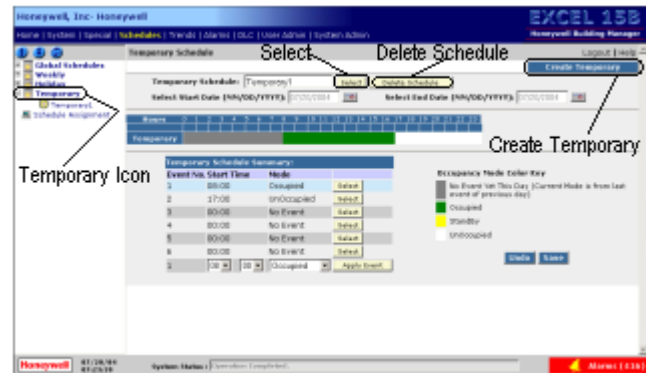

Fig. 23. Temporary Schedule Page
2. Click the "Temporary" icon and select a Temporary Schedule from the list displayed. The selected Temporary Schedule details appear on the "Temporary Schedule" page (refer to Fig. 23).
NOTE: You can also view and update another Temporary Schedule. Click "Select" (refer to Fig. 23) and choose the Temporary Schedule from the list displayed in the "Select Temporary From List" window.